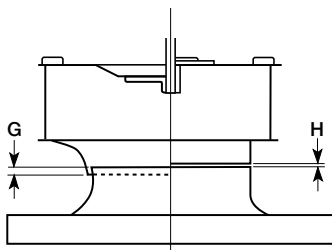

Figure 7
1. Check all fasteners and set screws for tightness. The wheel should rotate freely and be aligned as shown in Figure 7 below.